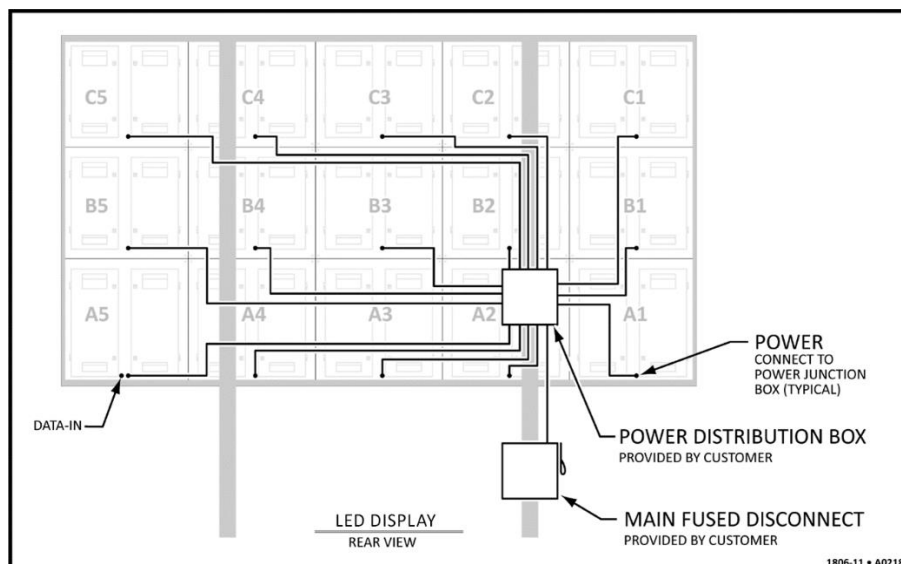

FIGURE 20 — POWER CABLE CONNECTIONS
- All data cable wires must be routed and reconnected to operate all sections. Refer to Figure 20 on page 20.
- A fused disconnect (provided by others) must be installed. The location of the disconnect switch after installation shall comply with Article 600 of the National Electrical Code. Refer to Figure 20 below.